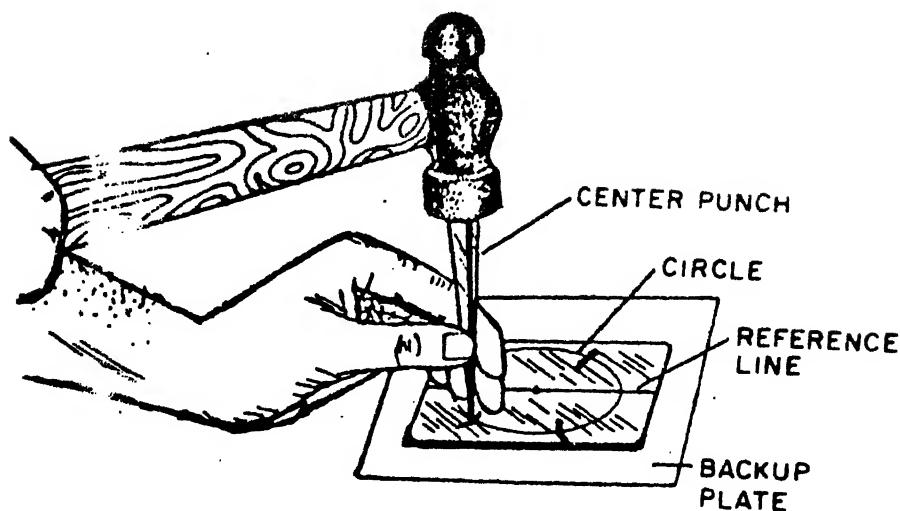

FIGURE 9
*(1) Hold center punch at a right angle to the plate.
*(2) Using flat face of the ball peen hammer, squarely strike the center punch once. See figure 9.